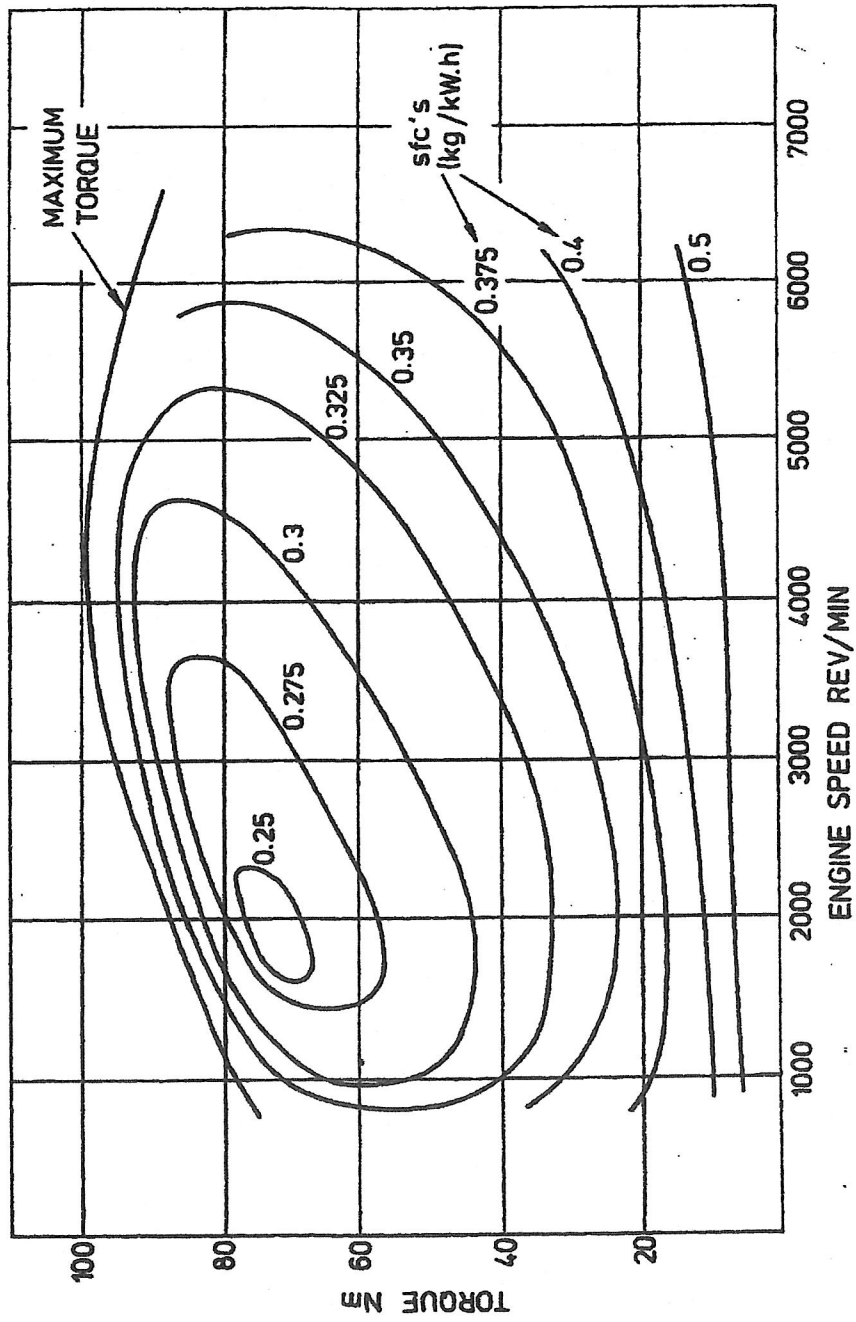

Fig. 1
Supplementary page: one extra copy of Fig 1 (Question 1)
1 Figure 1 shows the performance of an internal combustion engine that is to be used to power a vehicle of mass 1000 kg with wheel radius of 0.36 m. Apart from starting, the engine must only operate between 1000 and 6000 rpm. The total road resistance F (in Newtons) on a level road is given by
- (b) For a gear ratio $G = 6$ plot the load characteristic on the supplementary copy of Fig. 1 and hence show that the maximum gradient that the vehicle can climb in this gear is about 9° . What is the vehicle speed under these conditions? [25%]
A copy of Fig. 1 is provided and should be handed in with your script.